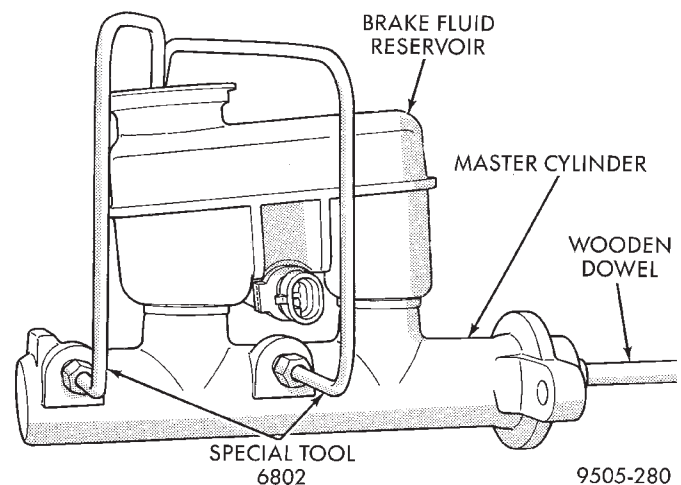

Fig. 35 Bleeding Master Cylinder
(2) Fill brake fluid reservoir with brake fluid conforming to DOT 3 specifications such as Mopar or an Equivalent.
(3) Using a wooden dowel per (Fig. 35). Depress push rod slowly, and then allow pistons to return to the released position. Continue to repeat this step several times after no more air bubbles are expelled